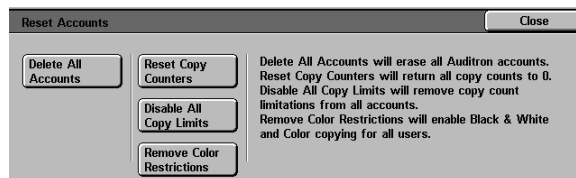

Figure 38: Reset Accounts screen
- 6 Touch the **Close** button in order to exit the Reset Accounts screen, Figure 38.